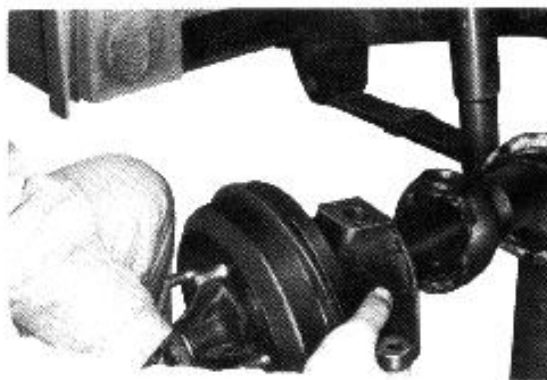

Fig. 10-6
6. Take out the eight joint seal bolts and pull out the front axle shaft as shown in the Fig. 10-6.